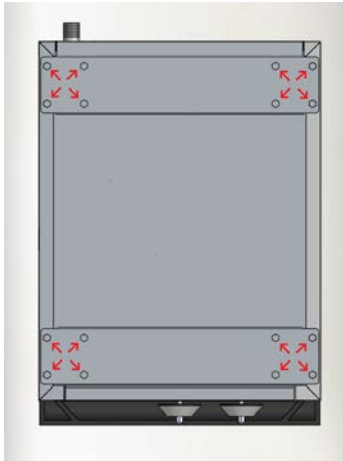

Fig. 1
2. Turn chassis upside down and locate the leg plate to align the four screw holes (Fig. 1).